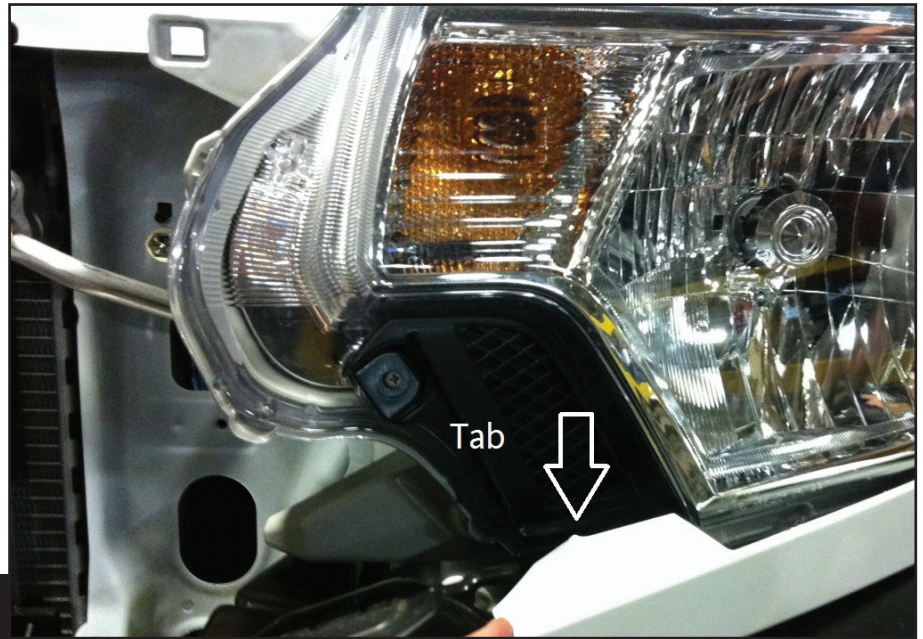

Fig 2
2. Pull out lower headlight filler from the grill opening. There is a push in clip holding it in. Once popped out, slide the piece toward the center of the truck, allowing it to slide off the fender tab. Keep part for reinstall later (**Fig 2**).